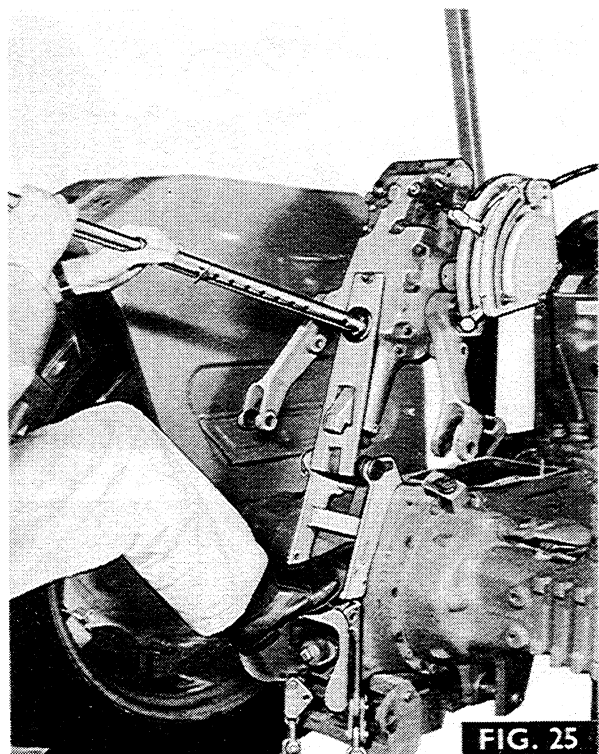

FIG. 25
16. Fig. 25. Taking care not to damage the control valve vertical lever (10, Fig. 10), detach the lift cover from the centre housing as shown, and place the support leg on the ground.
5. Fig. 25. Taking care not to damage any parts, manoeuvre the lift cover assembly into position, over the two special studs onto the centre housing.